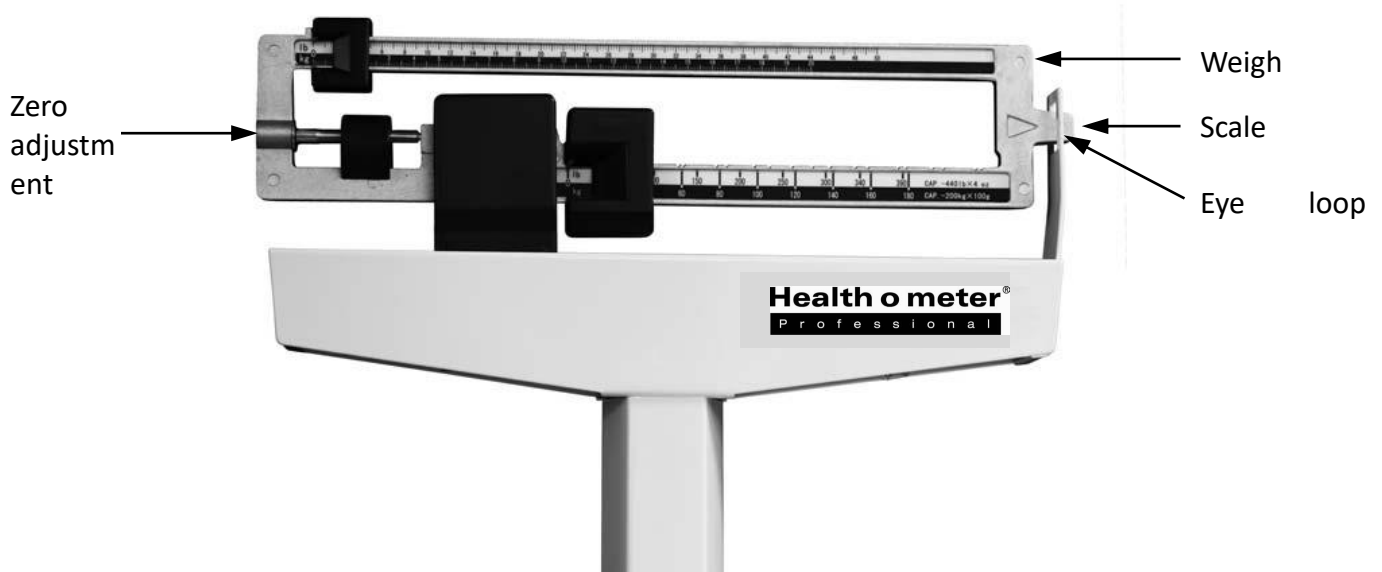

Figure 9. Eye Loop Area and Zero Adjusting Screw Location (shown without height rod)
3. If the pointer doesn't remain centered, turn the zero adjustment screw (shown in Figure 9) using a flathead screwdriver until the pointer remains centered within the eye loop.
Zero balance out of adjustment	<ul style="list-style-type: none"> ▪ The weighing beam must be balanced so the pointer comes to a rest in the center of the eye loop (shown in Figure 9) when both poise weights are set at zero (see page 1 for poise weight location). Follow zero adjustment instructions on page 7.